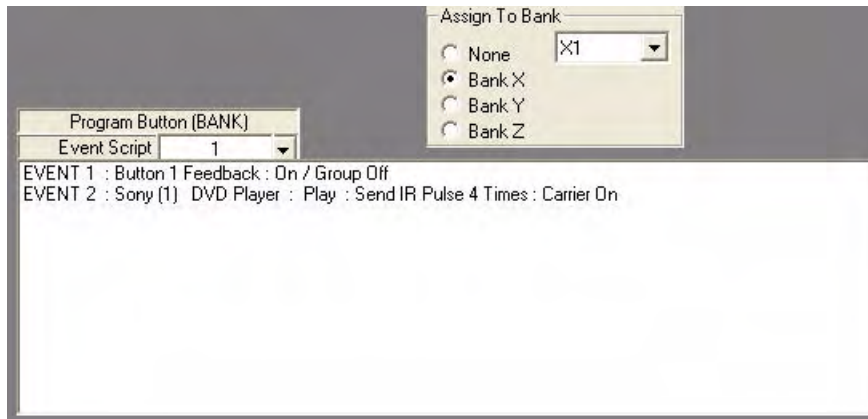

FIG. 63 Script for Bank X1 (DVD Play)
3. Write a script for Bank **X1** (e.g. DVD play - FIG. 63).